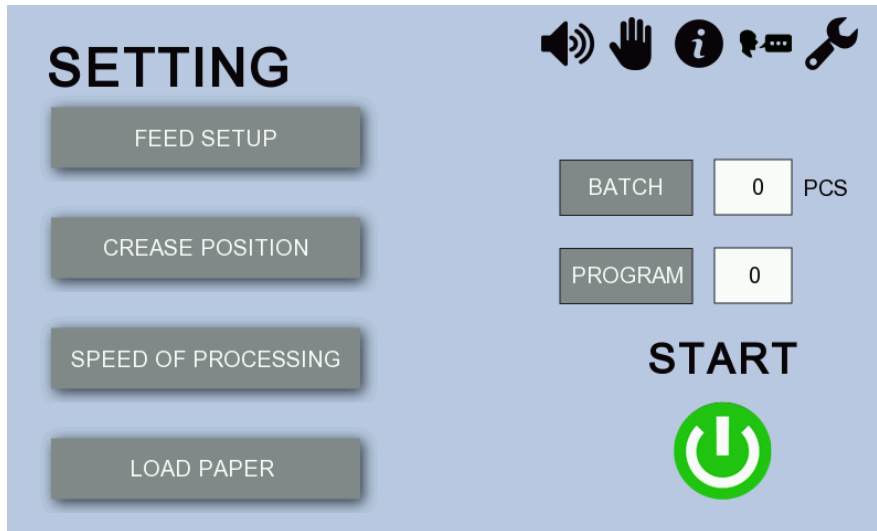
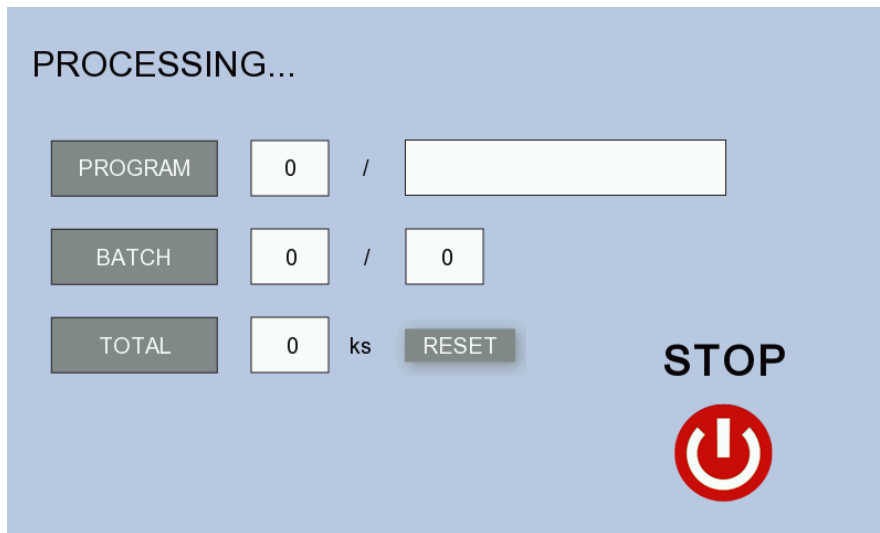
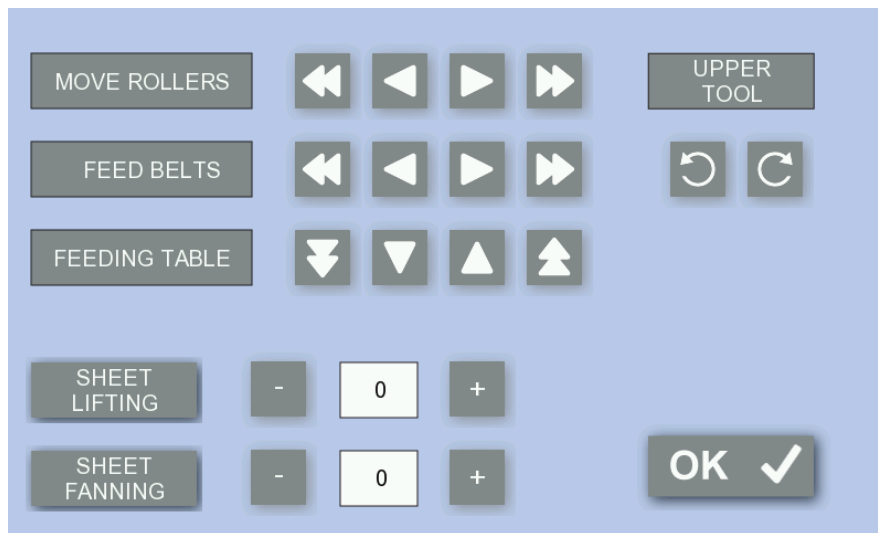

Fig. 14: "SETTING" Screen
Fig. 24: “WORKING CYCLE” Screen
Fig. 26: “MANUAL CONTROL” Screen
Press **FEEDING** on the “SETTING” screen (Fig. 14) to display the following menu.
Press **CREASE POSITION** on the “SETTING” screen (Fig. 14) to display the following menu.
similarly for other types of fold). A single sheet is run through the machine without creasing; the machine measures the sheet and saves the sheet length in the memory. Values are displayed in their respective fields when the sheet has passed through. Then start the test by pressing . Use the field over  to enter the number of test sheets if required; the default value is 1. During the test the screen shows the sheets yet to be processed in the test. Once the test is completed, it is recommended to check the measured length before processing the rest of the batch. If the crease is not precisely at the required distance, correct the distance manually. Then press **OK** to return to the “SETTING” screen (Fig. 14) and press **START**  to run the working process.
Press **SPEED OF PROCESSING** on the “SETTING” screen (Fig. 14) to display the following menu.
Press the numeric icon next to the field **BATCH** on the “SETTING” screen (Fig. 14) to display numeric keypad (Fig. 22). Use the numeric keypad to set the batch (= the number of sheets to be processed by the machine in a single cycle) and press **ENTER** to confirm. Enter **0** if you wish to switch the batch off. Batch processing may be interrupted in three ways:
program. Press the numeric icon next to the field **PROGRAM** on the “SETTING” screen (Fig. 14). The program saving and loading menu (Fig. 23) is displayed. Use the **+** and **-** keys to list values between **0** and **5**. You can save your jobs under **1–5**; value **0** indicates no program is saved in the memory.
Adjust the feeding table (11) according to the instructions in Section 7.1. There must be a minimum gap between the side guides and the pile of paper. The machine’s design allows loading a pile of paper of up to 2.75” in height. Adjust the distance of the back stop (5) on the delivery table (7) according to the size of the sheet. Press **START**  on the touch screen (Fig. 14). The machine starts running and the touch screen switches to the “WORKING CYCLE” screen (Fig. 24). The **STOP** icon  and information about the program, the batch and the number of processed sheets are displayed on the touch screen.
Manual control is mostly used when replacing the tools or when loosening jammed paper from the machine. Press  (manual control) on the “SETTING” screen (Fig. 14) and the following menu is displayed (Fig. 26). Press the move forward/backward icons ,  next to the **MOVE ROLLERS** field to set the machine’s rollers running. Icons  and  define the continuity of the run of the rollers.  – rollers are turning only if the arrow is held.  – rollers start running and rotate until the icon is pressed again. The **FEED BELTS** (feeding strips running) and **FEEDING TABLE** fields work similarly. Press **SHEET LIFTING** and **SHEET FANNING** to run the respective functions. Use  (tool backwards) under the **UPPER TOOL** field if the perforation/creasing force gets too high and the top bar (23) remains in the lower position. Press  to unlock the tool and adjust the thrust by using the tool thrust regulation screws (20). Activate  (tool forwards) to make a trial stroke. Refer to Section 7.5 for how to use the icons of the **UPPER TOOL** field. Press **OK** to go back to the “SETTING” screen.